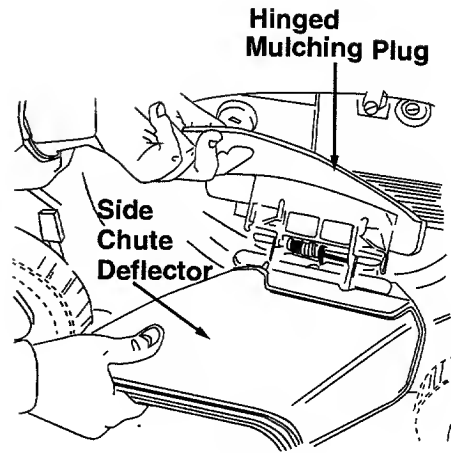

Figure 6.
9. To convert your mower from a mulcher to a side discharge mower, lift the hinged mulching plug. Slide the two hooks on the side discharge deflector under the hinge pin on the mulching plug assembly. Lower the mulching plug. See figure 6.